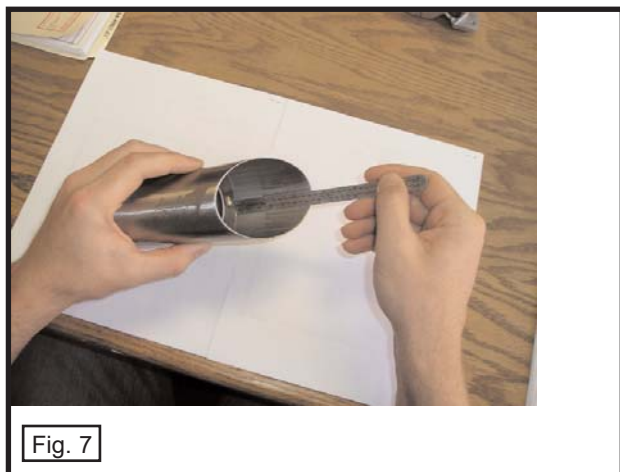

Fig. 7
- 3) Slide the QMI into the megaphone outlet of the GP1 pipe. Measure from the highest point on the slash cut portion of the megaphone down to the highest point on the QMI. (Fig. 7)